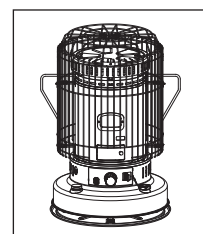

Fig.9
**G) Now your heater is completely assembled: (Fig.9)**